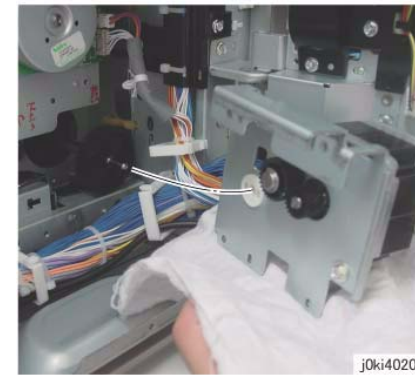

Figure 5 Install the Takeaway Motor
3. When installing the Takeaway Motor, align the shaft to the hole of the bearing. (Figure 5)